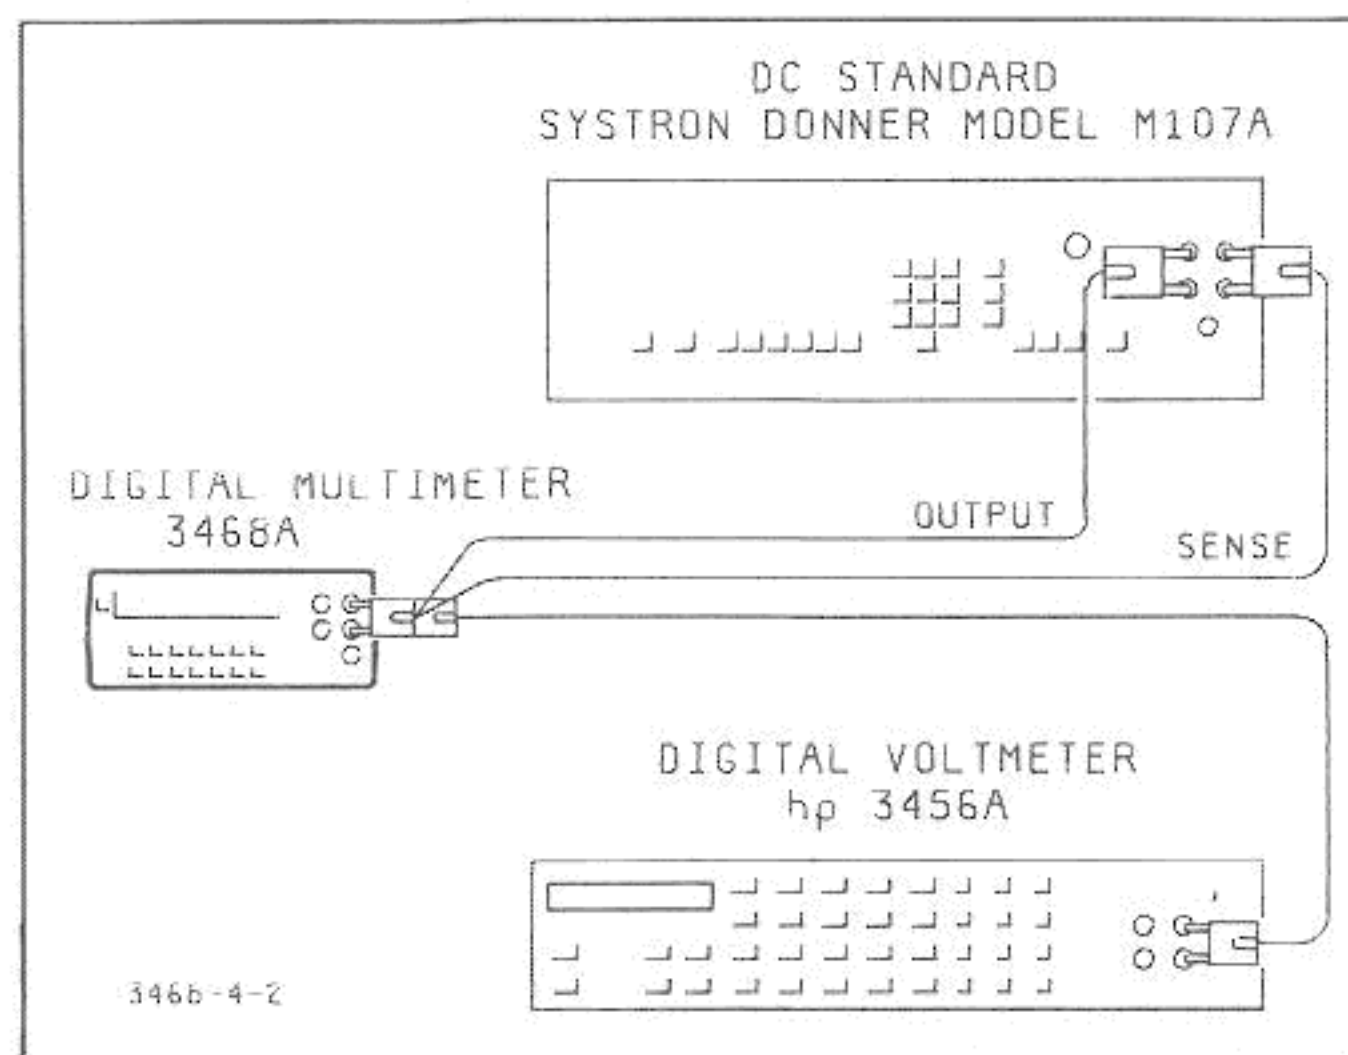

Figure 4-2. DC Volts Accuracy Test
g. Connect the 3468A to the Digital Voltmeter and DC Volts Standard, as shown in Figure 4-2. Use the Digital Voltmeter as the standard and the DC Standard